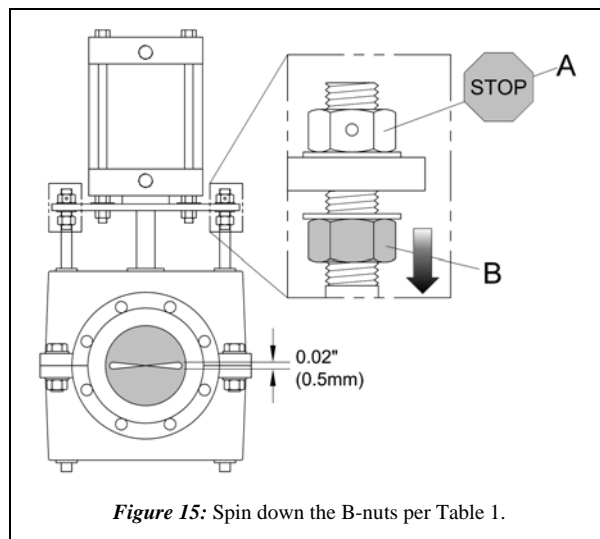

Figure 15: Spin down the B-nuts per Table 1.
STEP 11: Once the gap(s) are set with the RF Valve® closed, turn the B-nuts (Fig. 15) away from the fastening plate ③ a number of turns as found in table 1 (next page).